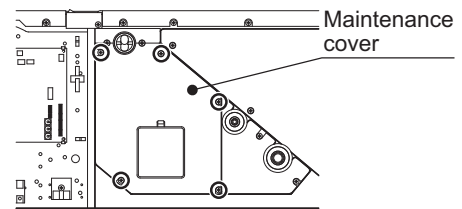

Fig.3
3. Remove the fixing screws shown in Fig. 3, and remove the maintenance cover.